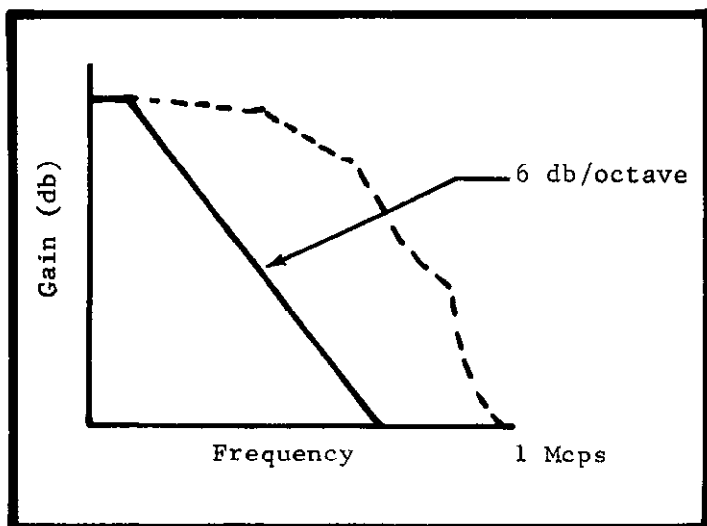

FIGURE 16. Bode Plot for Model 300.
b. The Keithley Model 300 is a very stable amplifier. The Bode plot of the Model 300 approaches the ideal 6 db/octave through use of an internal roll-off network that stabilizes the amplifier. If the Model 300 did not have a roll-off network, its Bode plot would be similar to the many segmented dotted curve shown in Figure 16. This curve is completely random and uncontrollable. However, the Model 300's internal roll-off network cuts off the high frequency response (moves the slope line to the left). Thus, operation on the natural roll-off curve (dotted line) will never occur. However, due to the many variables present, this 6 db/octave may not be present in every application.